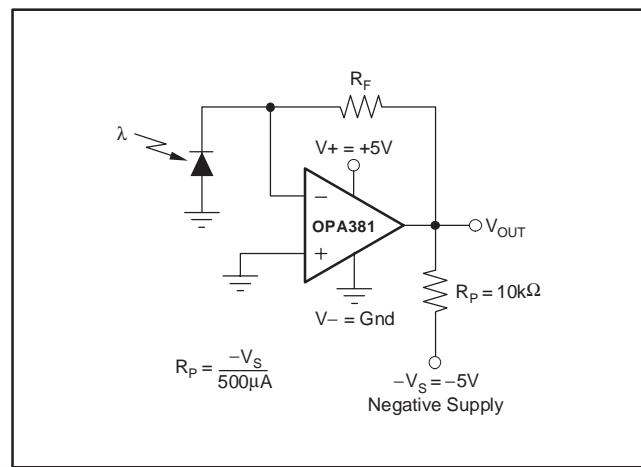

Figure 3. Amplifier with Pull-Down Resistor to Achieve $V_{OUT} = 0$
(1) High temperature operating life characterization of zero-drift op amps applying the techniques used in the OPA381 have repeatedly demonstrated randomly distributed variation approximately equal to measurement repeatability of $1\mu\text{V}$. This consistency gives confidence in the stability and repeatability of these zero-drift techniques.
(2) Tested with output connected only to R_p , a pulldown resistor connected between V_{OUT} and $-5V$, as shown in Figure 3. See also **Applications** section, *Achieving Output Swing to Negative Rail*.
The OPA381 performance results from an internal auto-zero amplifier combined with a high-speed amplifier. The OPA381 has been designed with circuitry to improve overload recovery and settling time over that achieved by a traditional composite approach. It has been specifically designed and characterized to accommodate circuit options to allow 0V output operation (see Figure 3).
The output of the OPA381 can be made to swing to 0V, or slightly below, on a single-supply power source. This extended output swing requires the use of another resistor and an additional negative power supply. A pulldown resistor may be connected between the output and the negative supply to pull the output down to 0V; see Figure 3.